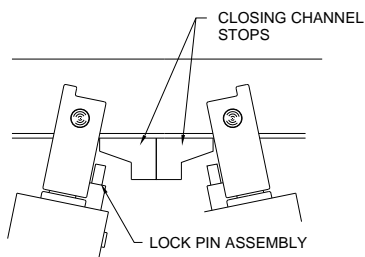

Fig. 5-1
1. Engage the bi-part channel locking pins into the closing channel stops. (Fig. 5-1)